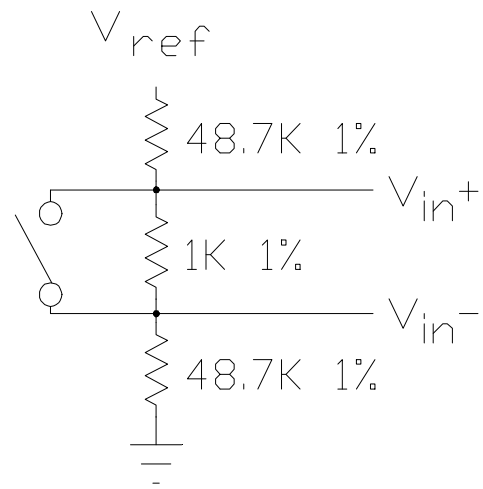

Figure 4-10. DC Gain Test Circuit
The first method of measuring the actual DC gain is by generating a small offset voltage at the input of the recorder and measuring the amplifier output response. To calibrate the amplifier, disconnect the sensor from the recorder and attach a resistive voltage divider to the input terminals (Figure 4-10). Arm and trigger (Trigger 1) the recorder to turn on the analog section. Measure and record the voltage (V) between Vin+ and Vin-. Measure and record the analog output voltage (V_{out1}) of the recorder. Next, short the Vin+ input to the Vin- input. Measure and record the analog output voltage (V_{out2}) of the recorder. If the voltages are not between 0 and V_{ref}, change the resistor between the input terminals to a smaller value and try again. The gain of the amplifier can be calculated using Equation (4-5):